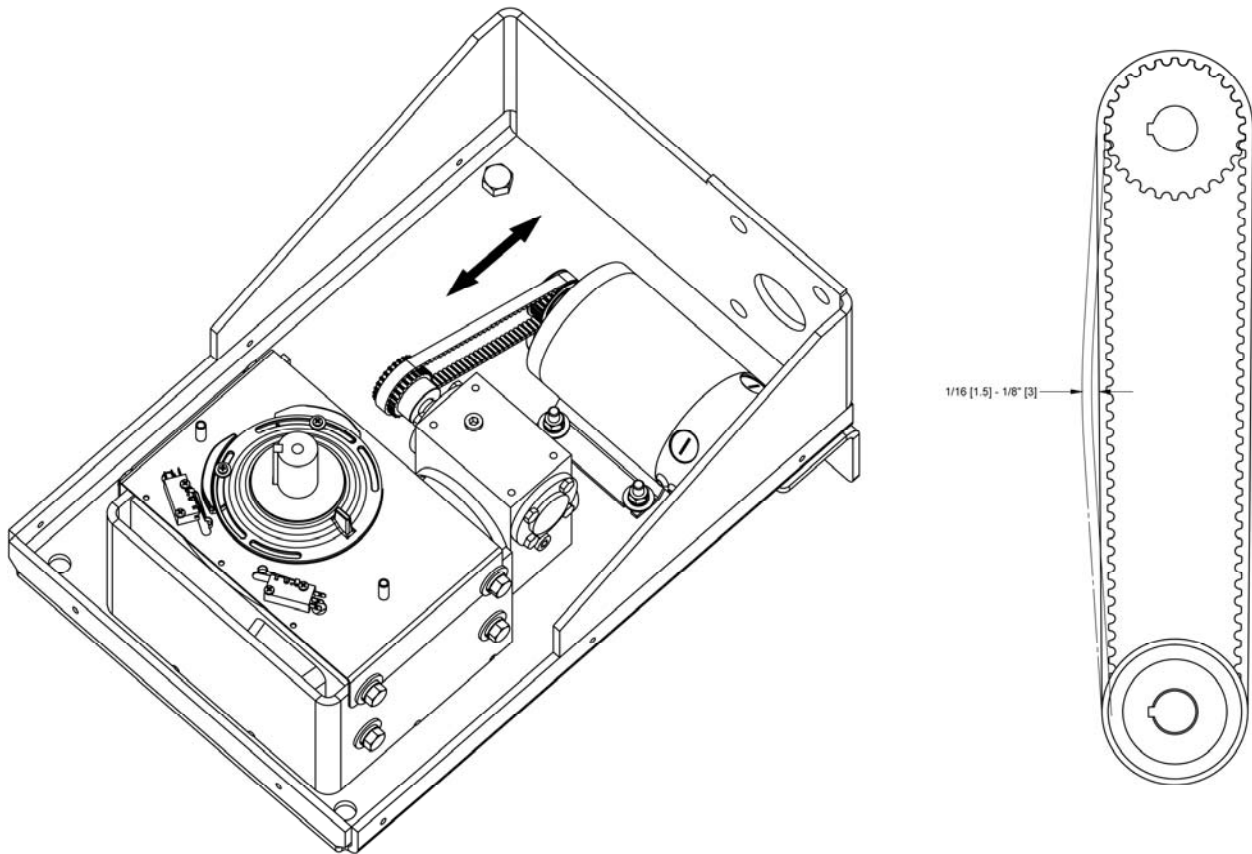

Figure 6-16
3. With your finger, apply light outward pressure to the drive belt. If it is properly tensioned, it should only move about 1/16-inch to 1/8-inch (1.6 to 3.2mm). See Figure 6-16.